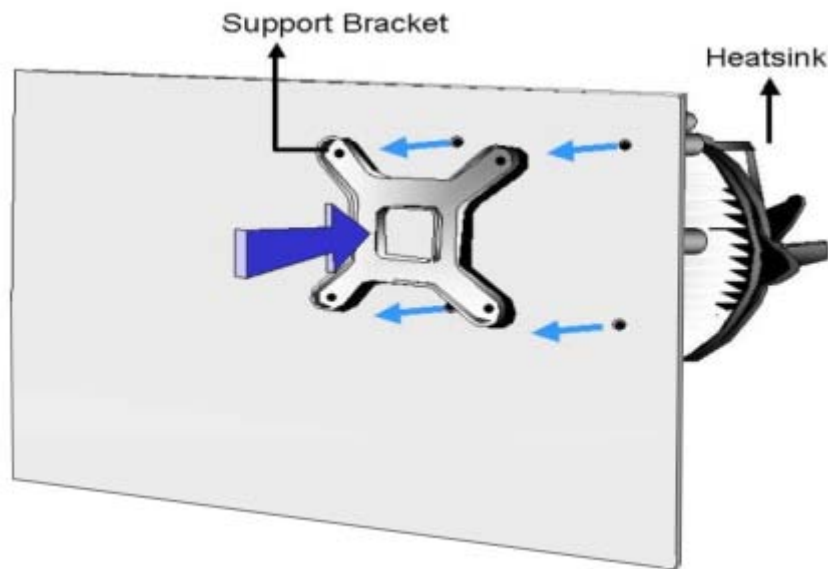

Figure 4-6: Securing the Heat sink to the KINO-G410
Step 4: Secure the cooling kit. From the solder side of the PCB, align the support bracket to the screw threads on heat sink that were inserted through the PCB holes. (See **Figure 4-6**)